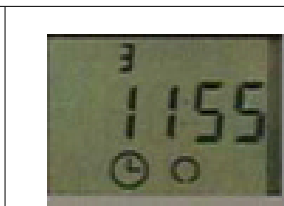

Fig. 7
- The ':' symbol between the hours and minutes display will start to flash, this indicates that the clock is now keeping time (see fig. 7).